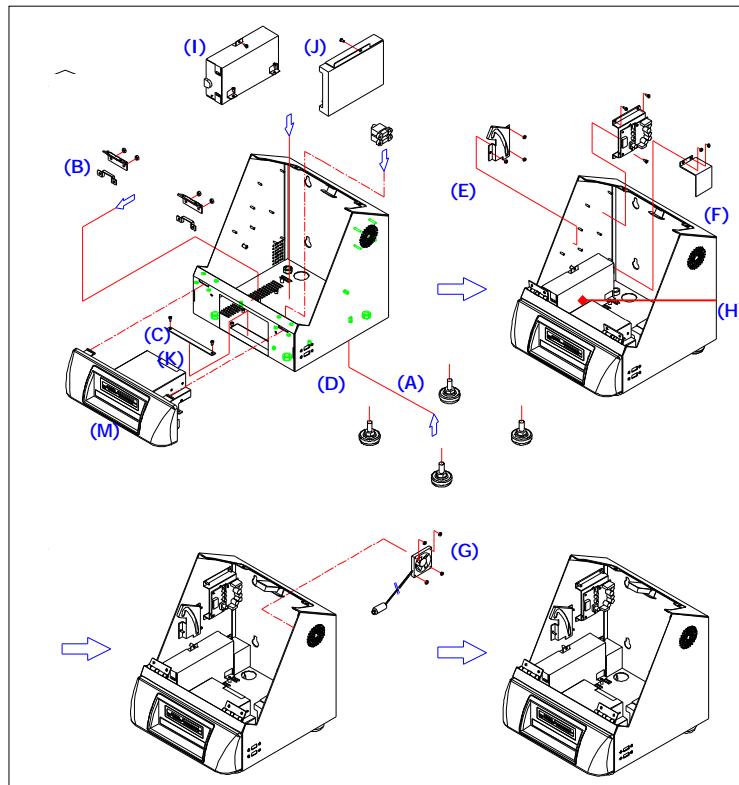

FIGURE 3-14: KIOSK ENCLOSURE W MEDIA READER BEZEL ASSEMBLY
6. Connect the two USB cables to the USB outlets (Fig. 3-14, 3-15 (D)) located at the right side of the cabinet.